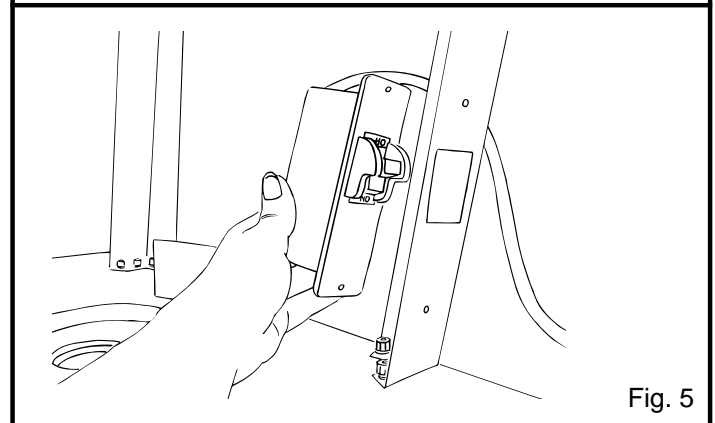

Fig. 5
- Hold the switch box so that the words **ON** and **OFF** on the toggle switch are upside down. Carefully insert switch box through the cutout in the left front leg as shown in Figure 5.